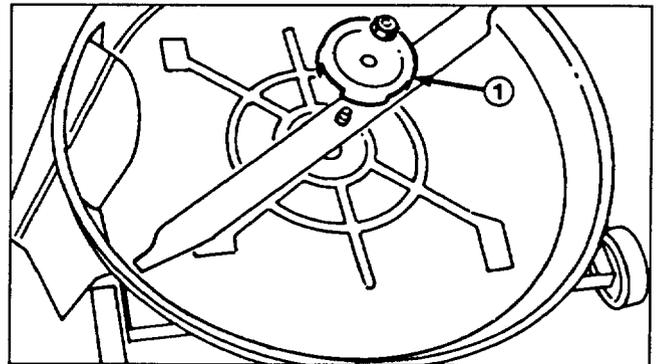

Figure 22
6. Grasp end of blade using a rag or thickly padded glove; then remove lock nut, anti-scalp cup and blade (Fig. 22).
7. Using a file, sharpen cutting edge at both ends of the blade (Fig. 22).
9. In sequence, install blade, anti-scalp cup and lock nut (Fig. 22). Tighten lock nut to 45-60 ft-lb (61-81 N·m).
7. Since rider is tipped on end, check condition of blade (Fig. 22).